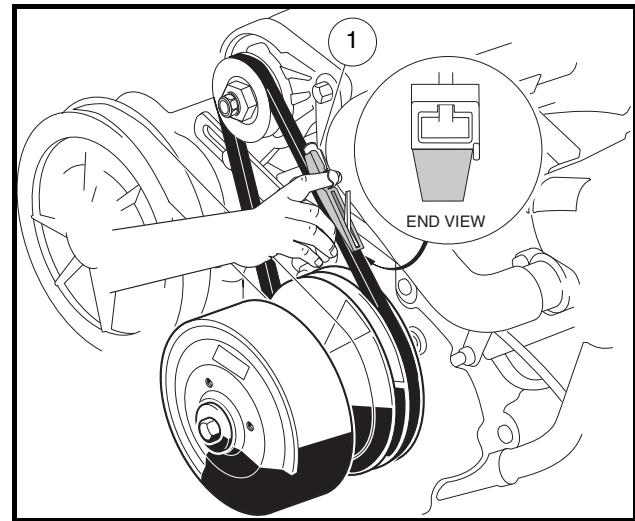

Figure 12-14 Belt Tension Gauge
- Hold the pry bar and measure the belt tension using a Krikit® gauge (1) (available at NAPA® Auto Parts stores), or equivalent. Proper tension for a new starter/generator belt should be 75 ft-lb (101.7 N·m), or 45 ft-lb (61 N·m) for an existing belt (**Figure 12-14, Page 12-10**).